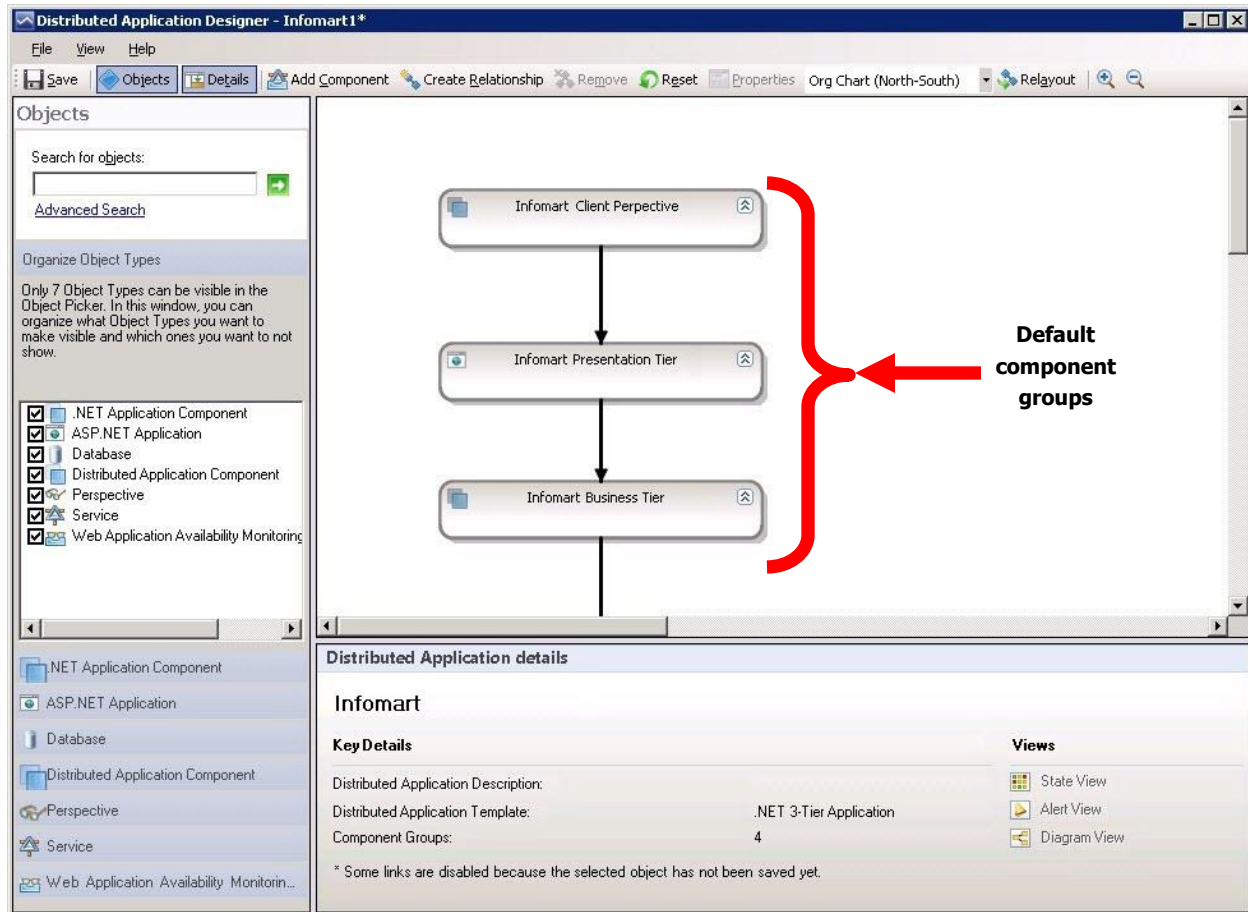

Figure 3.26: The Distributed Application Designer
- In the **Name Your Distributed Application** section of Figure 3.25, provide a unique **Name** to your distributed application – for easy identification, its best to name the distributed application after the business service it corresponds to. In the case of our example therefore, set *Infomart* as the **Name** of the distributed application. Next, select the **.NET 3-Tier Application** option from the **Template** list in the **Choose Distributed Application Template** section, and pick the **eG Customization Management Pack** option from the **Management Pack** drop-down in the **Save to a Management Pack** section. Finally, click the **OK** button in Figure 3.25. This will invoke the **Distributed Application Designer** window (see Figure 3.26).